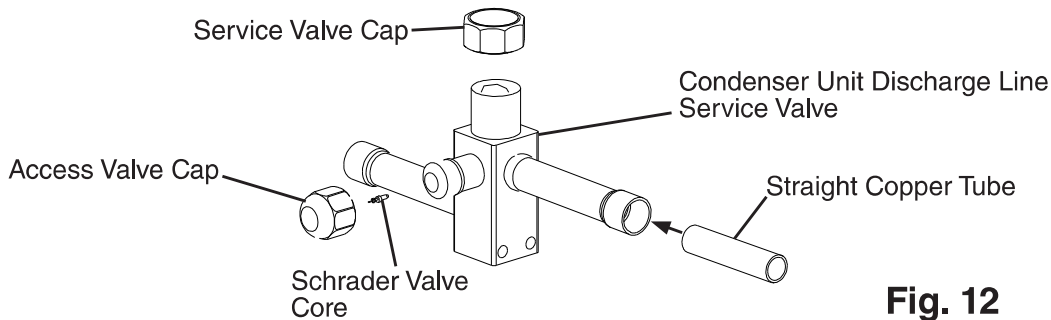

Fig. 12
- a) Remove one of the straight copper tubes from the icemaker accessory bag and place it in the icemaker liquid line service valve. See Fig. 12.